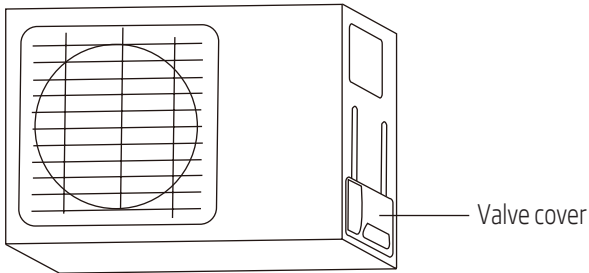

Fig. 3.9
1. Unscrew the cover from the packed valve on the side of the outdoor unit. (See Fig. 3.9)